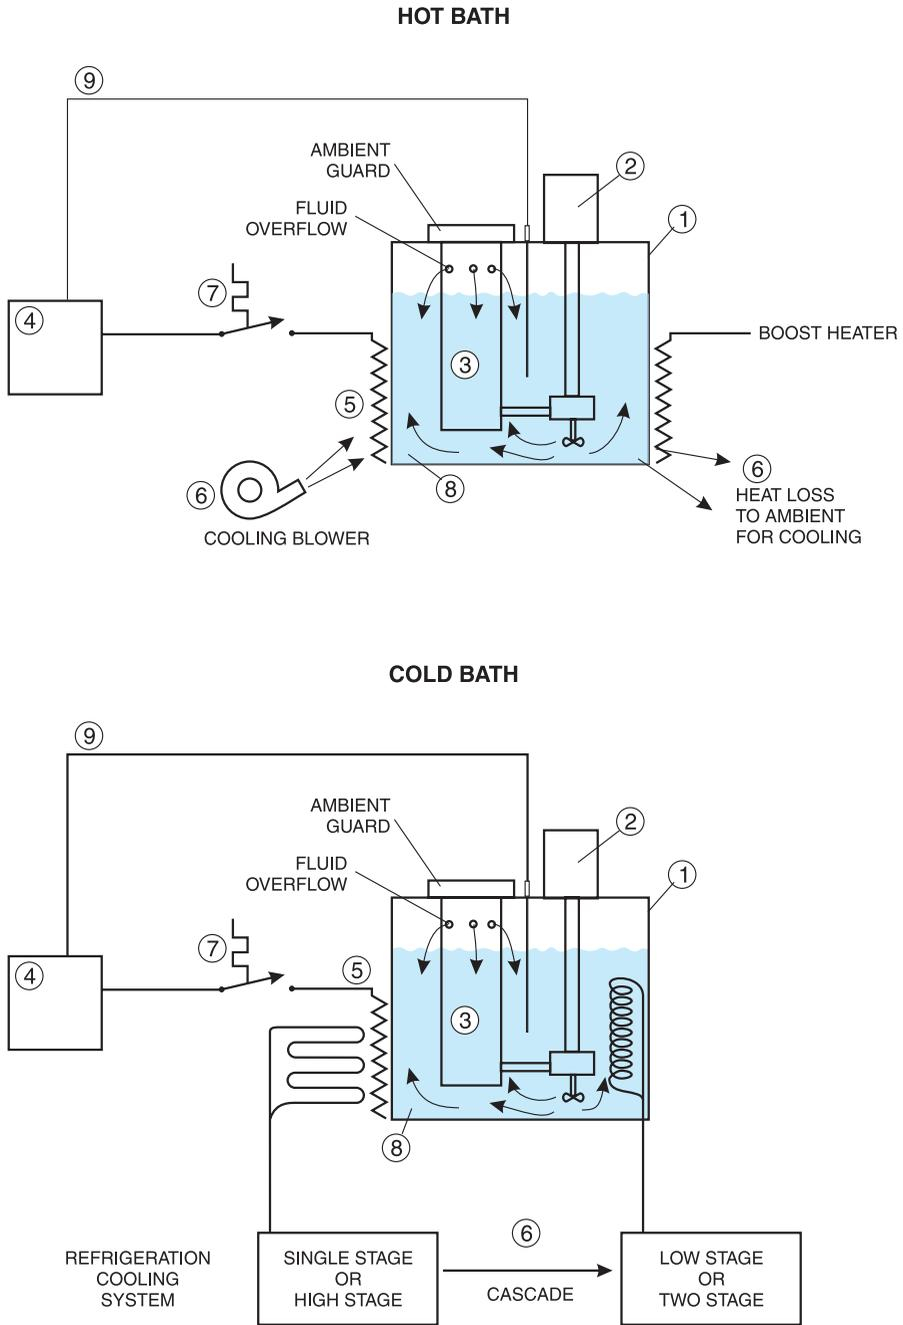

Figure 2. 7013 System Block Diagram
The Hart Scientific 7013 is shown in block form in Figure 2. The bath system consists of two baths. Each bath consists of a (1) tank, (2) pump, (3) test well, (4) temperature controller, (5) control heater, (6) cooling system, (7) overtemperature cutout, (8) bath fluid, and (9) temperature control probe.